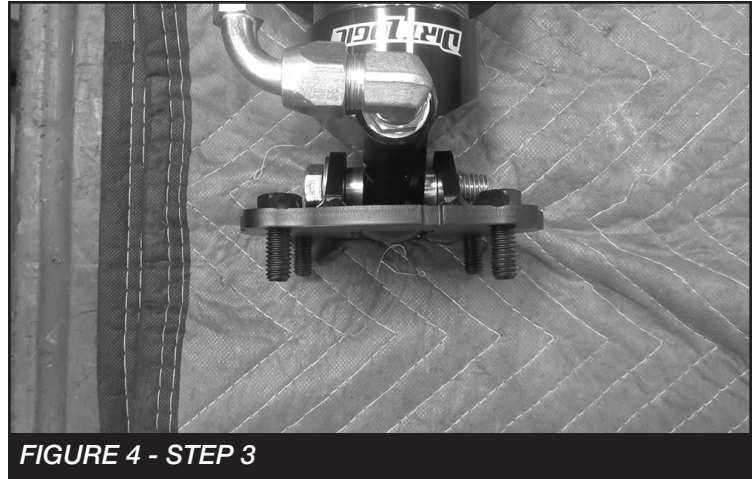

**FIGURE 2 - STEP 2**
2. Install two FT83090 (Misalignment Spacers) into the new Dirt Logic Coilovers. **SEE FIGURE 2**